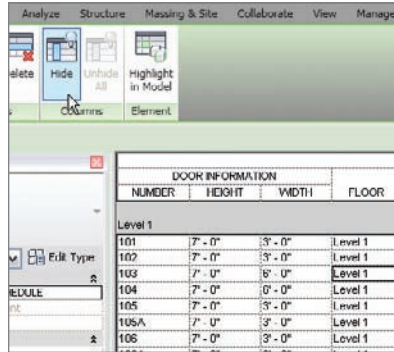

FIGURE 11.24 You can hide a column but still have Revit sort the schedule based on the hidden information.
1. Select a cell in the Level column, as shown in Figure 11.24.